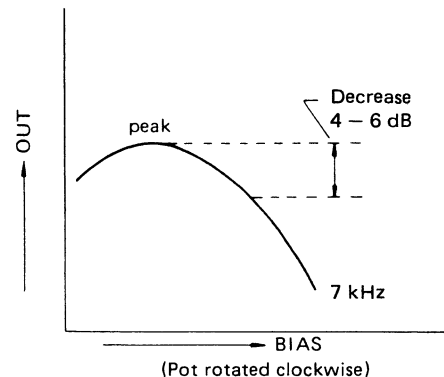

Fig. 2-15. Bias Limit Chart
6. Begin adjustment by turning the trimmer (C134) completely counterclockwise. Next, loosen and turn the trimmer clockwise and the AF level meter will rise to give peak reading. Slowly continue the clockwise rotation until the reading on the level meter drops 4 – 6 dB from the peak reading as shown in Fig. 2-15.